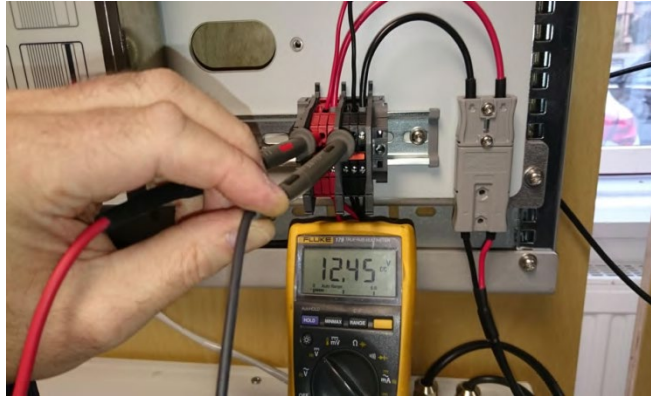

Figure 3 – Red and Black DIN Terminals
- 2.4 Measure the voltage across the red and black DIN terminals (Figure 3) on the 'Site Interface' panel.